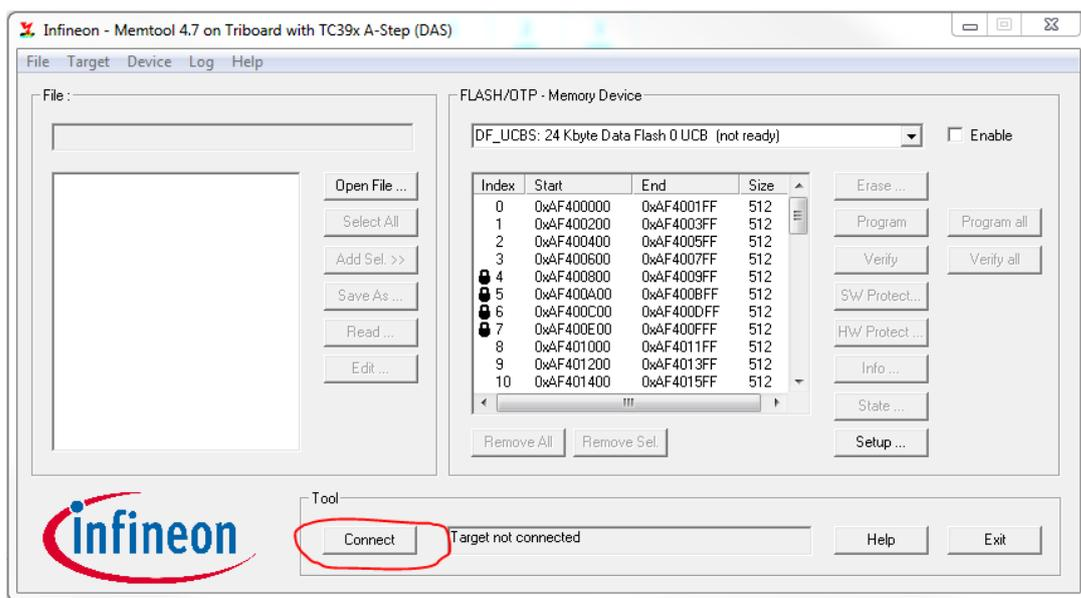

Figure 6: Connecting PC to Target (Board)
8. Connect to target (Figure 6):